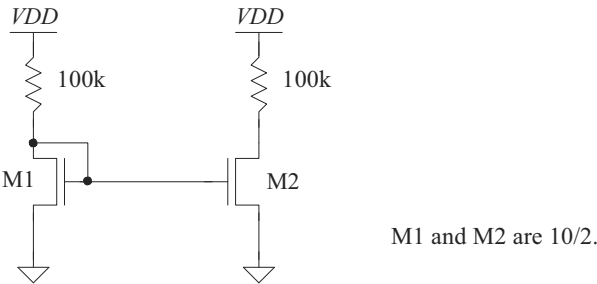

Figure 20.51 Current mirror used in Problem 20.1.
20.1 Using the CMOS long-channel process ($1\text{ }\mu\text{m}$), determine the current flowing in the circuit seen in Fig. 20.51. Verify your answer with SPICE.